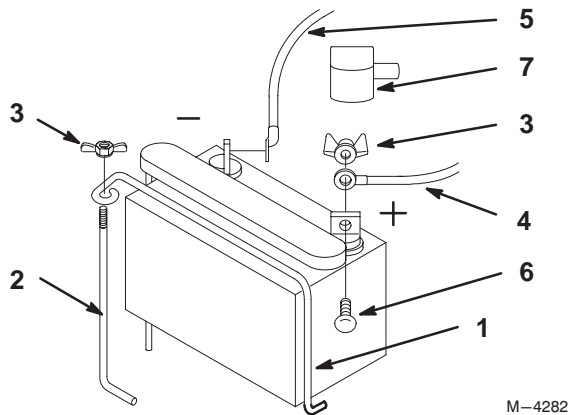

Figure 5
- Mount the battery on the battery support with the terminal posts toward the gas tank (Fig. 5).
- Secure the battery with the clamp, support rod, and wing nut (Fig. 5).
- Slide the red terminal boot onto the red battery cable (Fig. 5).
- Install the positive battery cable to positive (+) battery terminal and the negative battery cable to the negative (-) battery terminal and secure them with carriage bolts and locknuts (Fig. 5).